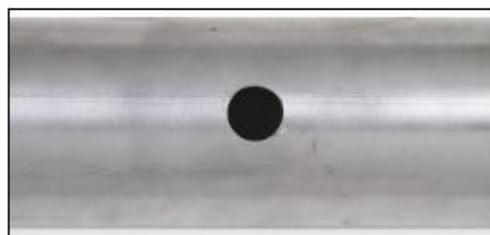

Figure 2
4. Mark the center of the casting on the exhaust tube and drill a 3/4" hole. Deburr the hole after drilling (**Figure 2**).